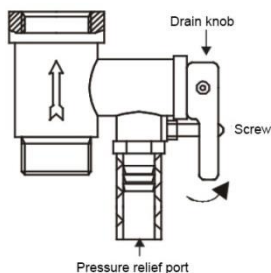

Fig 6
6. To drain the internal tank, use the safety relief valve: unscrew the screw of drain knob on the safety relief valve and move the drain knob to the up position — the hot water outlet tap must be open and the cold water inlet tap must be closed (see Fig. 6). Water will start flowing from the pressure relief port of the safety relief valve.